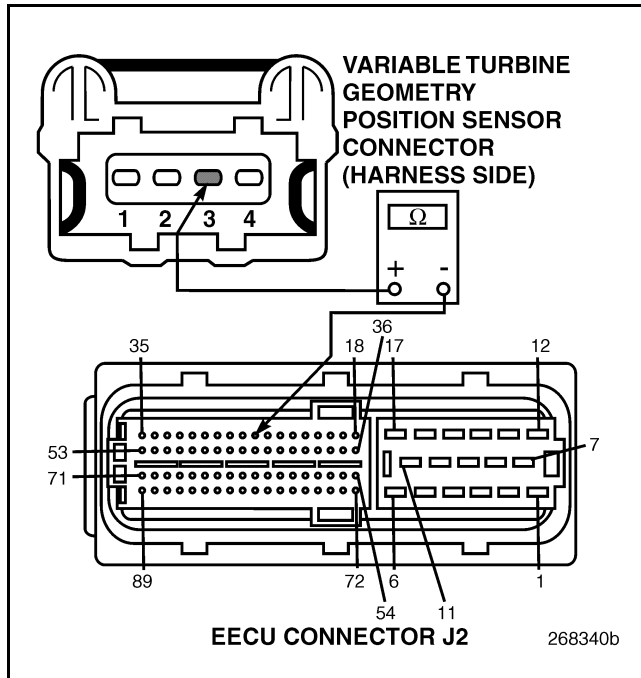

Figure 498
3. Check for continuity between the VTG Position Sensor harness connector pin 3 (reference voltage line) and EECU harness connector J2 pin 26 (see Figure 498).